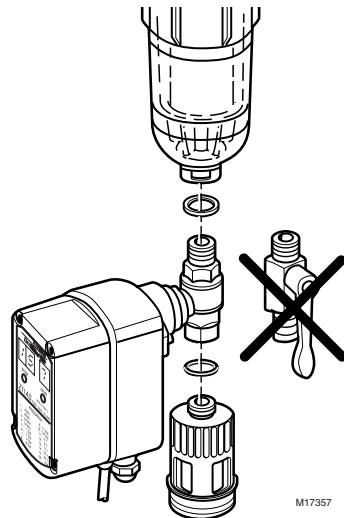

Fig. 7. Final position of MV876 and F76S components.
3. Remove the backwash outlet (see Fig. 7):
4. Connect the MV876 to the F76A (see Fig. 7):
5. Connect the hose fitting to the MV876 backwash outlet (see Fig. 7).